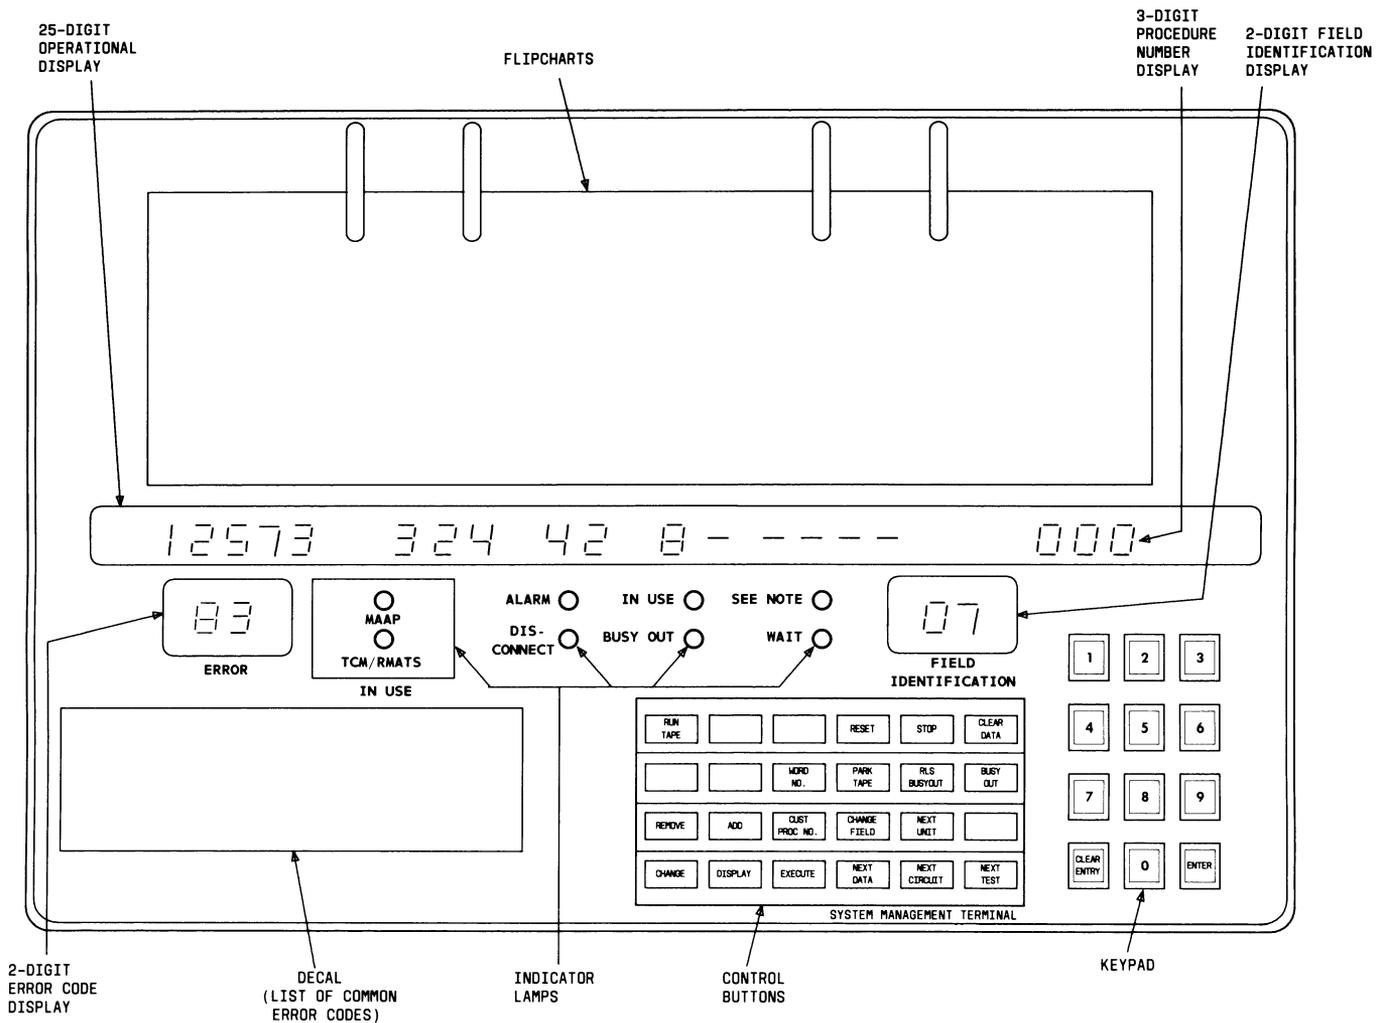

Figure 1. SMT Layout
The SMT (see Figure 1) is an electronic terminal containing a keypad, control buttons, indicator lamps, a set of detachable flipcharts, and digital displays. The SMT operator uses this terminal to change assignments of system features and services.
A set of flipcharts, attached at the top of the SMT (see Figure 1), aids in interpreting data presented on the displays. Flipchart information includes:
**Procedure number display** — This 3-digit display indicates the PROC number for the procedure currently displayed. In Figure 1, the procedure number displayed is “000”.
**Error code display** — This 2-digit display indicates the types of errors occurring during operation of the SMT. The decal located below the error code display identifies error codes common to most operations. Numbers 80 through 98 are not listed on the decal. These numbers are reserved as special error codes for errors associated only with specific PROCs. Special error codes are identified on the flipchart for a given PROC, and in the **ANALYSIS OF PROCEDURES** section of this guide. In Figure 1, the error code displayed is “83”. In this example, “83” is a special error code indicating that “test line is already assigned for the module specified in field 2”.
**Field identification display** — This 2-digit display indicates which field on the operational display is ready to accept data. The field identification display in Figure 1 shows that field “07” is ready to accept data.